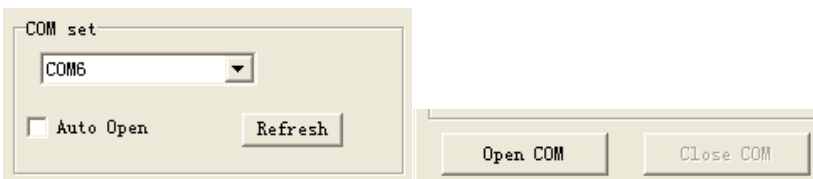

Fig. 2
1. Click the function diagram of «serial port settings», the interface is shown as in Fig. 2.